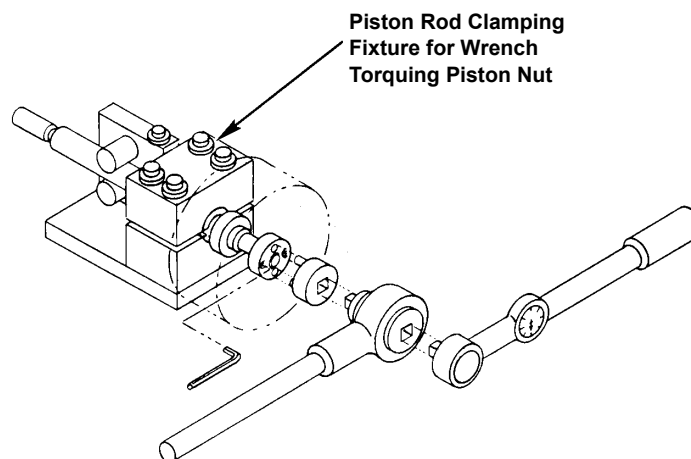
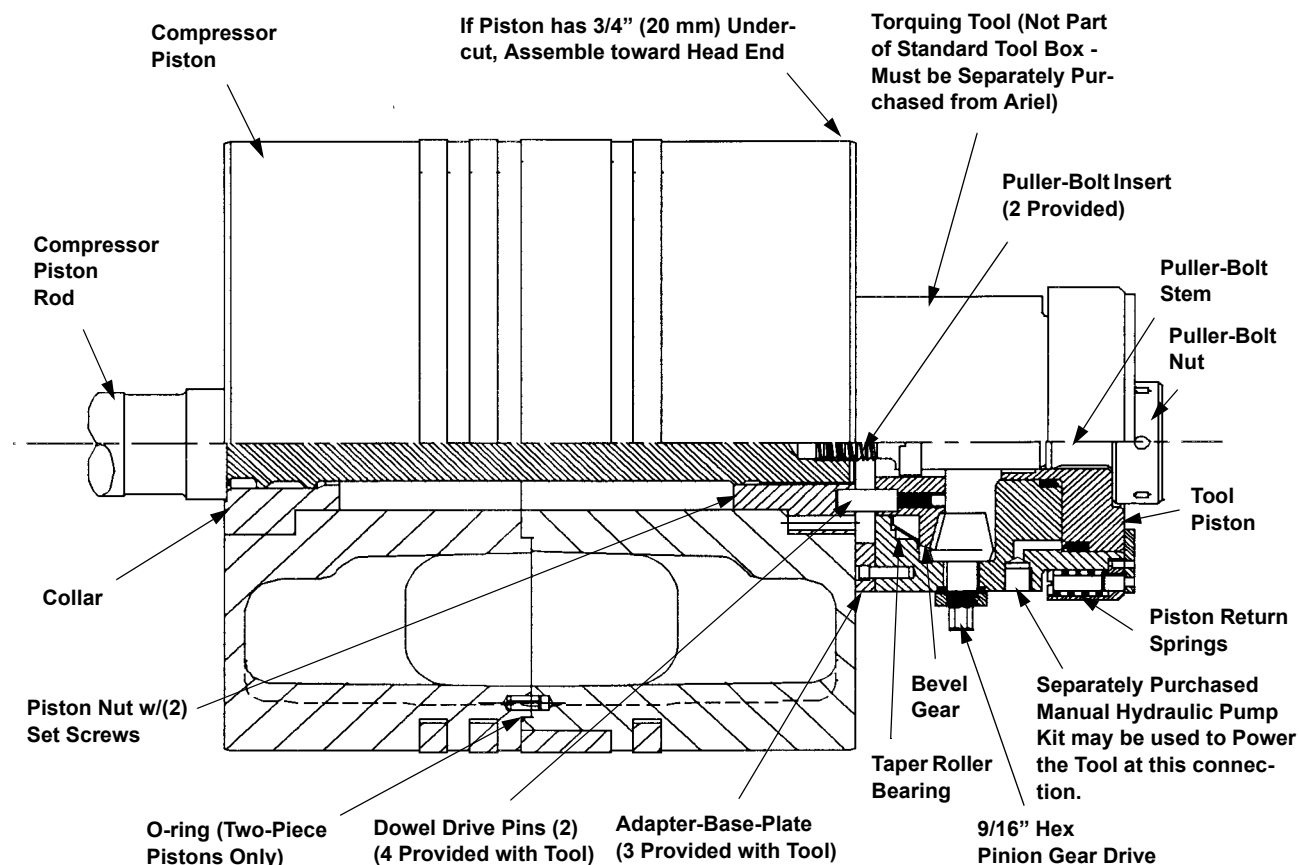

FIGURE 5-24: PISTON AND ROD CLAMPING FIXTURE (D-0961)
FIGURE 5-25: HYDRAULIC PISTON NUT TORQUING TOOL - TYPICAL
Older rods not drilled and threaded for the hydraulic torquing tool (see Figure 5-25: on Page 5-39), require a clamping fixture (see Figure 5-24: on Page 5-37) for proper piston and rod disassembly/reassembly. Rods which do not have the threaded hole may be reworked by a qualified machine shop. Contact your Distributor or Ariel for details. Remove the piston nut set screws (2) and reference the instructions in "Reassembly" below, before disassembly.
5. If the piston rod is not drilled and threaded for hydraulic torquing tool (see Figure 5-25: on Page 5-39), clamp the piston rod in a proper holding device, using clean and oil free PVC liners (see Figure 5-24: on Page 5-37). Clamp the piston rod as close to the collar as possible, but where holding device will not interfere with the piston. Older rods not drilled and threaded for the hydraulic torquing tool
9. For piston rods not drilled and threaded for the hydraulic torquing tool, tighten the piston nut to the recommended torque found in Table 1-15 on Page 1-25, using the piston nut spanner (see Figure 7-1: on Page 7-2) and piston torquing fixture (see Figure 5-24:). It may be necessary to use a hydraulic torque wrench to achieve the required torque. Loosen nut without disassembling and retighten to required torque. Repeating the tightening procedure properly seats the components.
10. For piston rods drilled and threaded for the hydraulic torquing tool (see Figure 5-25: on Page 5-39). Properly configure the separately purchased hydraulic torquing tool with the 7/8"-9 puller-bolt insert, the smaller dowel drive pins and the 4.120 inches (106 mm) inside diameter adapter-base-plate installed, except 4-5/8ET class pistons use the 3.570 inches (91 mm) base plate. Other small diameter pistons may require special base plates. Put the torquing tool in place, with the two dowel drive pins placed into the piston rod nut. Tighten the puller bolt until torquing tool is tight against the piston rod assembly. **CAUTION! TIGHTEN A MINIMUM OF EIGHT TURNS TO PREVENT PISTON ROD TO PULLER-BOLT THREAD FAILURE. SUCH FAILURES CAN RESULT IN PERSONAL INJURY. TOOL MUST BE PROPERLY CONFIGURED.** Then back off 1/4 turn. Note that the puller bolt-nut is provided with barring holes to insert a 3/8" (9.5 mm) rod, to assist in tightening or loosening the puller bolt, if necessary. A hydraulic pressure of 3,500 psig (241 bar_g) is to be applied to the torquing tool to stretch the piston rod. Then 50 lb-ft (68 N·m) of torque is to be applied to the 9/16 inch hex pinion gear drive. The hydraulic pressure is then released. Re-apply hydraulic pressure and completely loosen piston nut without disassembling and release hydraulic pressure; repeat the tensioning/tightening procedure. Repeating the tightening procedure properly seats the components. The hydraulic torquing tool is also used and pressurized to disassemble a piston and rod.